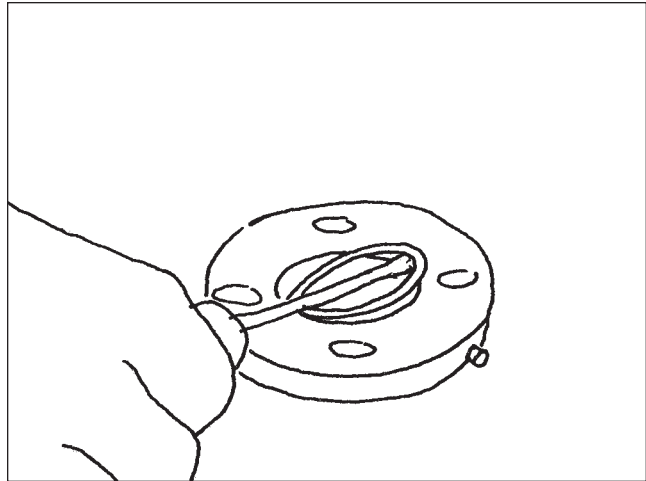

Figure 11
7. With a screwdriver, lightly pry the salt seal out of the bearing cap cover (Figure 11).